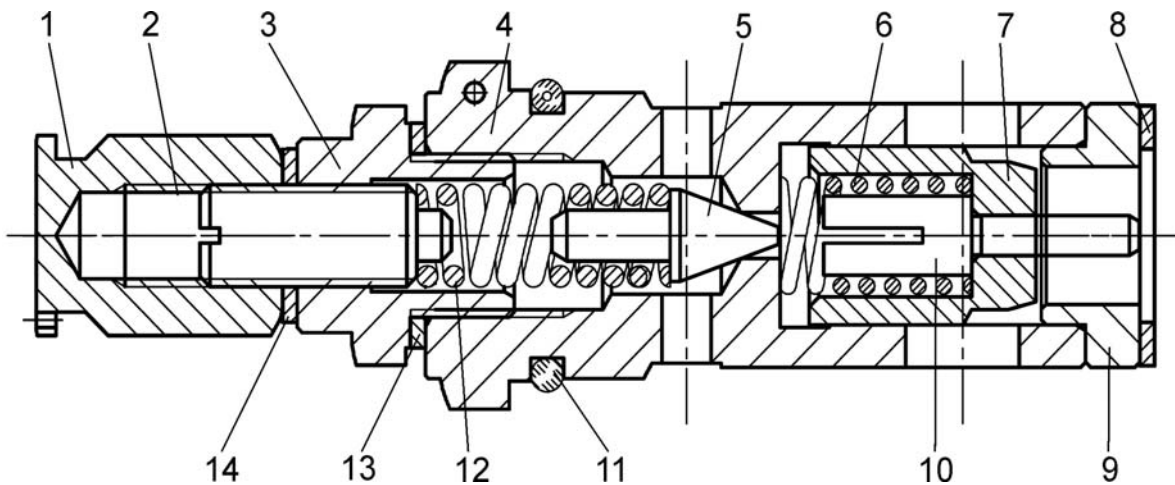

Fig. 10.8. Tilt Relief Valve
6. Remove cap (1, Fig. 10.8) and outer seal washer (14) of relief valve. Loosen jam nut (3) and turn adjusting screw (2) clockwise to increase pressure or counterclockwise to decrease pressure. After correct pressure is obtained, retighten jam nut (3) while holding adjusting screw (2) from turning. Install cap (1) with outer seal washer (14). Recheck oil pressure.